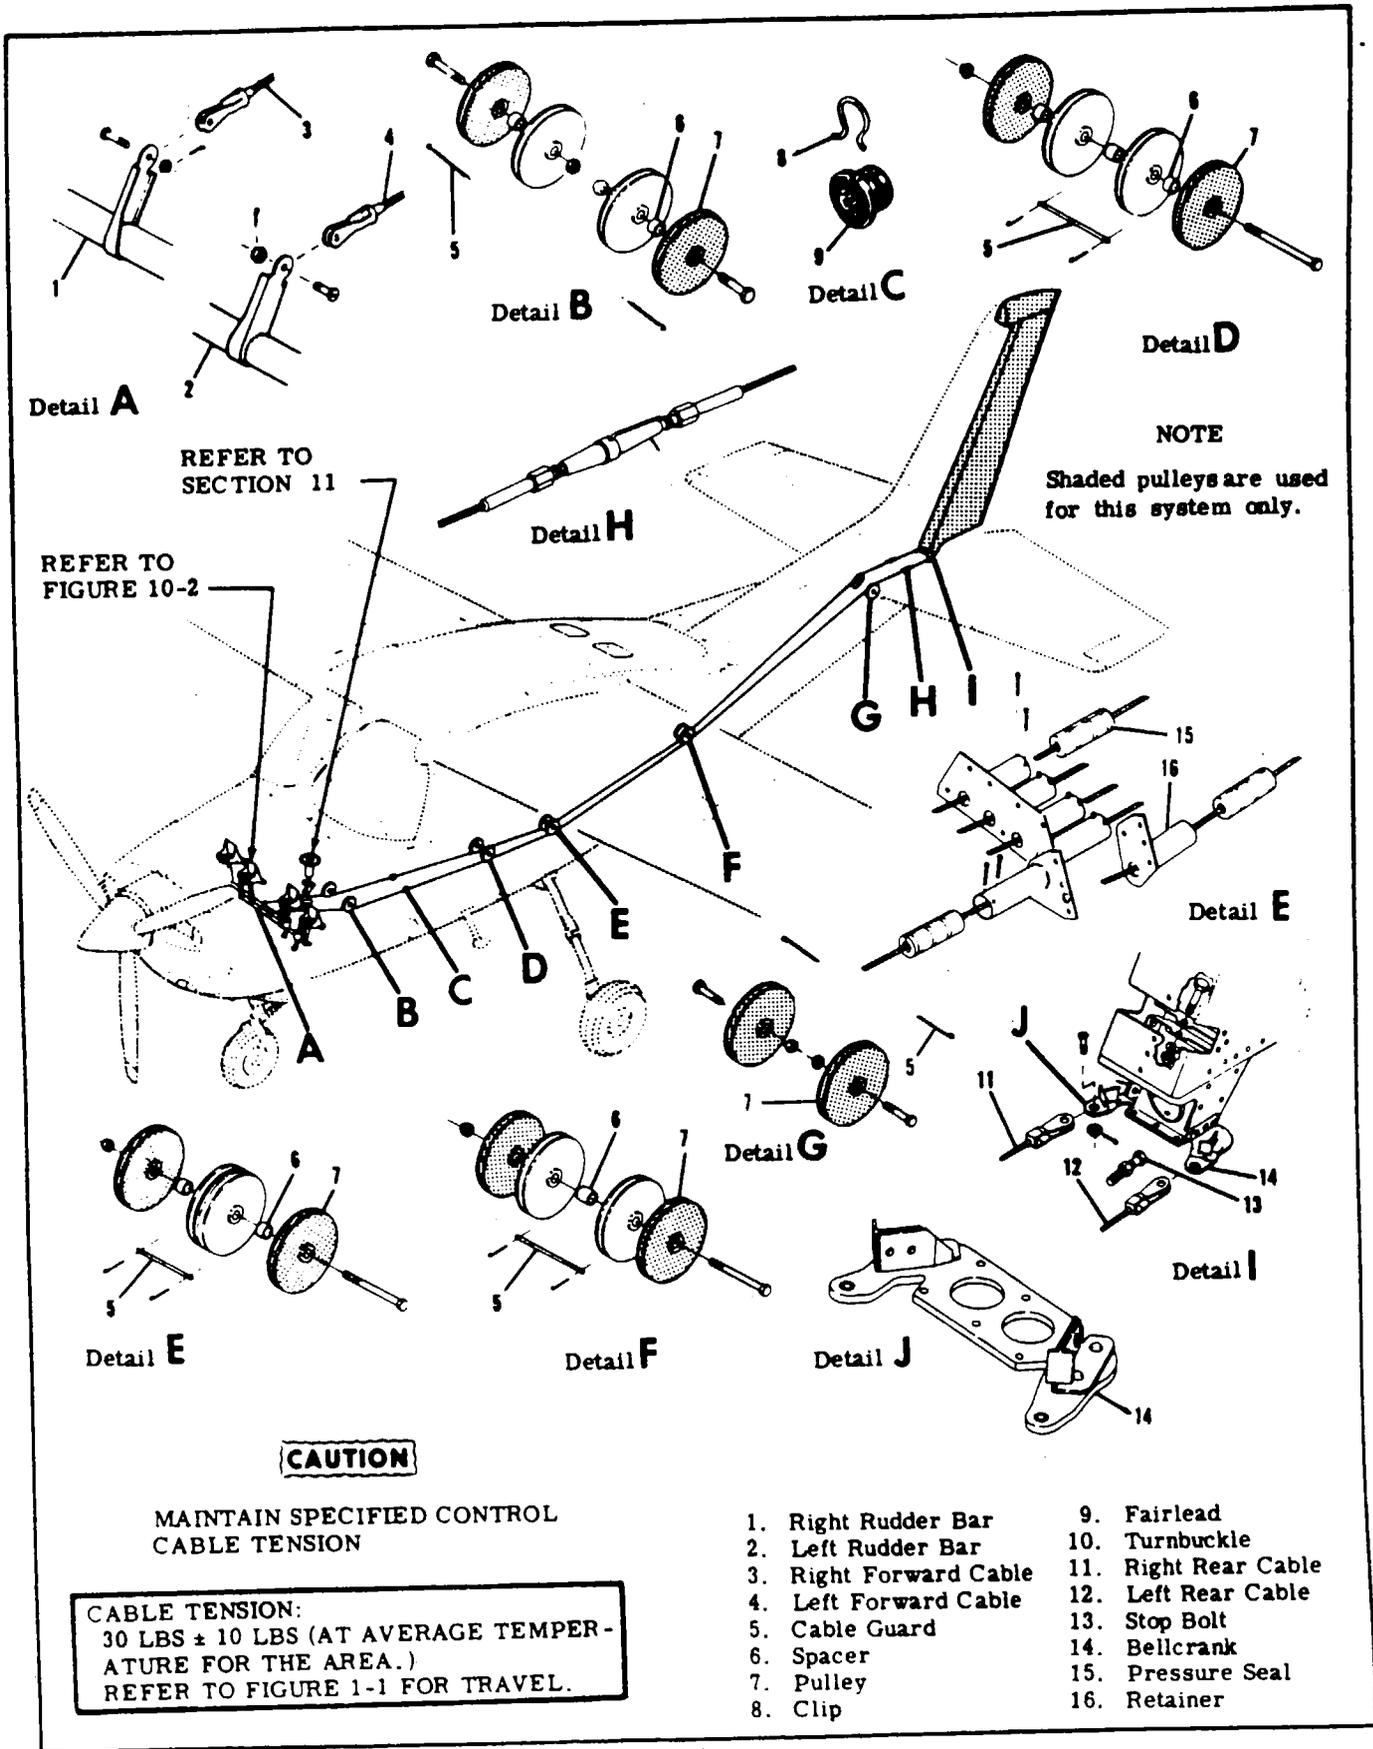
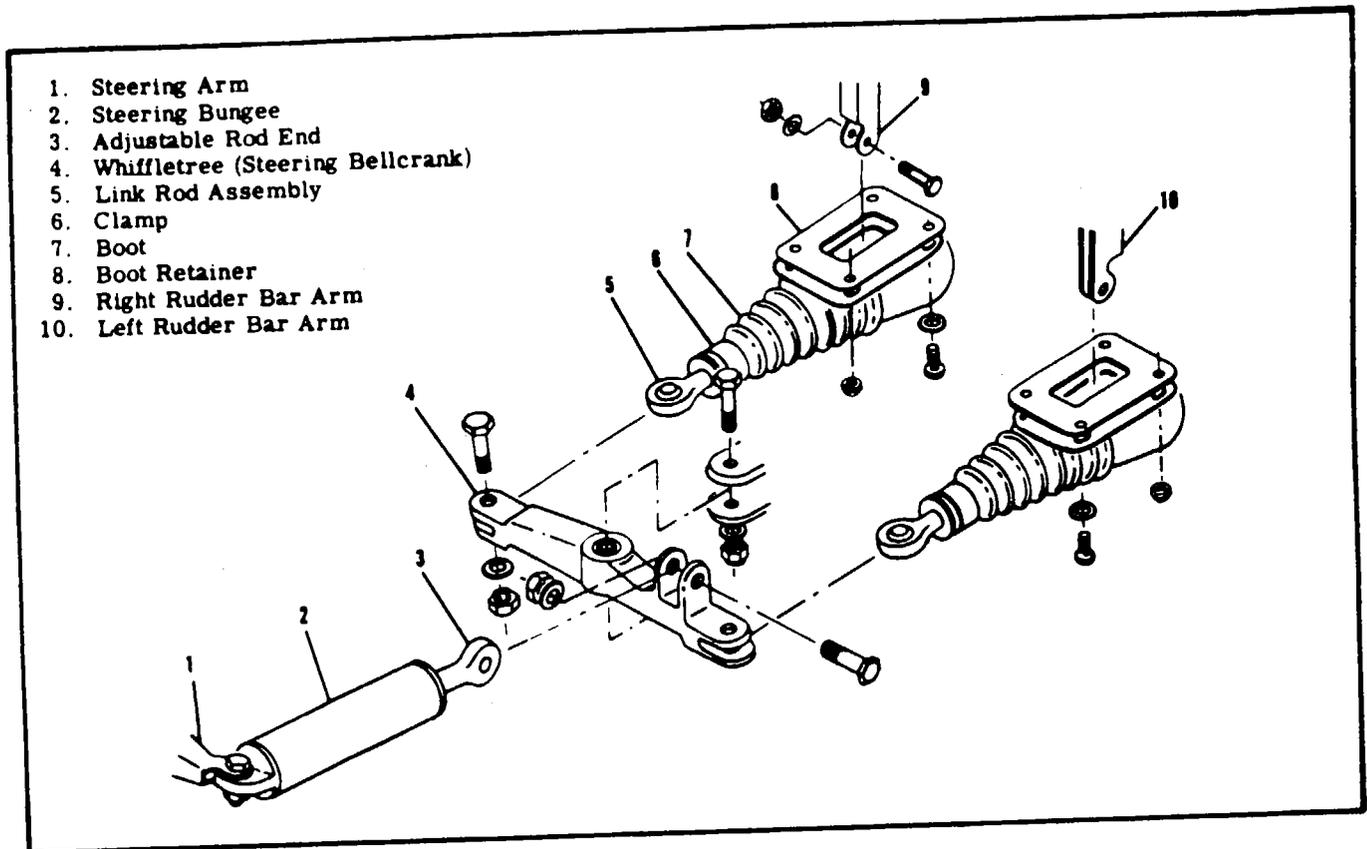

Figure 10-1. Rudder Control System
Figure 10-3. Nose Gear Steering Installation
10-1. RUDDER CONTROL SYSTEM. (Refer to figure 10-1.)
Insufficient cable tension.	Refer to figure 10-1 for cable tension. Rig system in accordance with paragraph 10-11.
- b. Disconnect brake master cylinders (18) and parking brake cables at pilot's rudder pedals.
- c. Remove rudder pedals (2) and brake links (5).
- e. Remove fairing from either side of vertical fin, remove safety wire and relieve cable tension by loosening turnbuckles (index 10, figure 10-1).
- g. Disconnect rudder trim bungee from rudder bar arm (16).
- h. (Refer to figure 10-3.) Disconnect whiffletree link rod assemblies (5) at rudder bar arms (9 and 10).
- c. Remove fairing from either side of vertical fin, remove turnbuckles (index 10, figure 10-1.)
- d. Disconnect cables (4 and 6) from rudder bellcrank (3).
- e. With rudder supported, remove all hinge bolts (2) and using care, lift rudder free of vertical fin.
10-9. CABLES AND PULLEYS. (Refer to figure 10-1.)
- a. Remove fairing from either side of vertical fin, remove safety wire and relieve cable tension at turnbuckles (index 10, figure 10-1).
- e. (Refer to figure 10-3.) Disconnect steering bungee adjustable rod end (3) from whiffletree (4).
- j. Adjust turnbuckles (index 10, figure 10-1) to streamline rudder with 30 ± 10 lbs tension on cables.
- l. Adjust travel stop bolts (index 13, figure 10-1) to obtain degree of travel specified in figure 1-1. Figure 10-5 illustrates correct travel and one method of checking.
- m. Adjust length of rod end (3) to align with whiffletree (4) and install bolt. DO NOT PRELOAD BUNGEE.